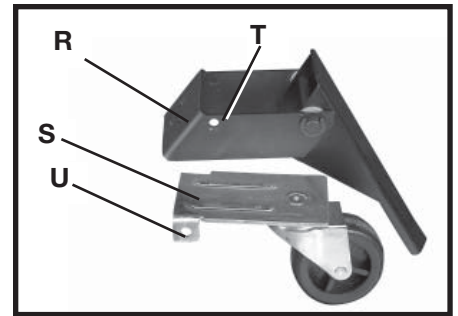
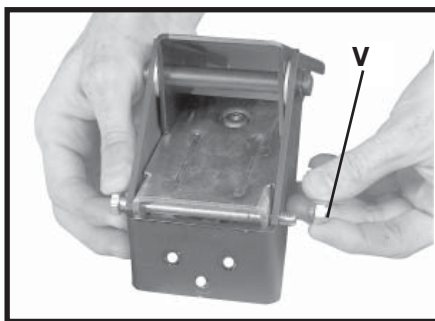

Fig. 21
Fig. 22
The Foot Lever and Caster Assembly are assembled together by placing the Foot Lever (R) over the Caster Assembly (S) Fig. 21 and lining up the holes (T) and (U). Then, insert a $\frac{5}{16}$ -18 x 4" Hex Head Screw through hole (T) and fasten in place with a $\frac{5}{16}$ -18 Nylock Nut (V) Fig. 22.